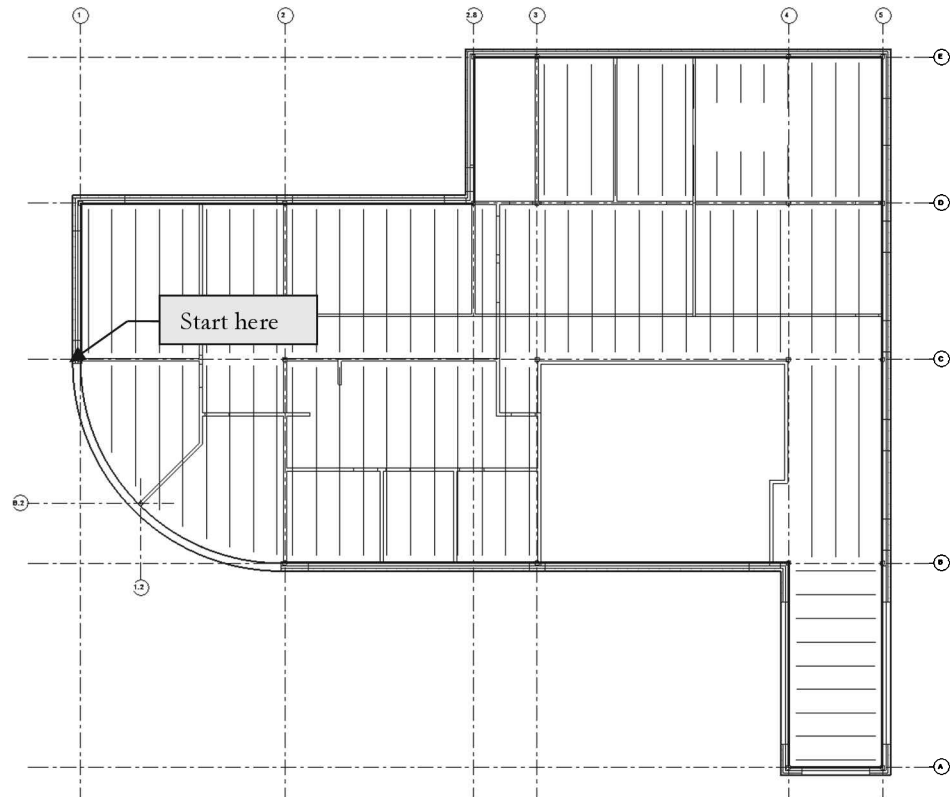

FIGURE 8-5.3 Level 1 slab and foundation plan; perimeter walls added
14. Begin drawing the foundation wall around the perimeter of the building (Figure 8-5.3).